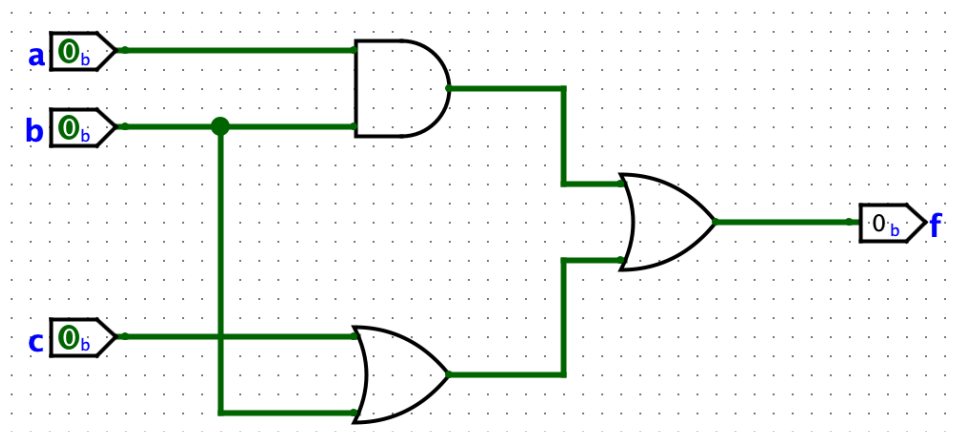

Figure 1: Schematic of the logical expression
1. Draw the gate diagram (similar to Figure 1) that implements this 2-to-1 multiplexer design using the AND, OR and NOT gates as specified above. Include this diagram in the prelab report you submit on Quercus. Have this diagram ready to show during your demo so the TA can verify the correctness of your design. **(PRELAB)**